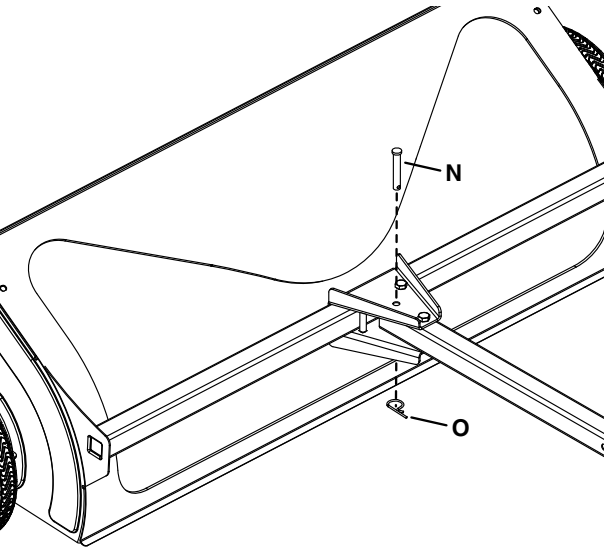

Figure 2
STEP 2: (SEE FIGURE 2)
- Install a 3/8" x 2-1/4" clevis pin (N) and 3/32" x 1.8" hair pin (O) into the drawbar assembly.